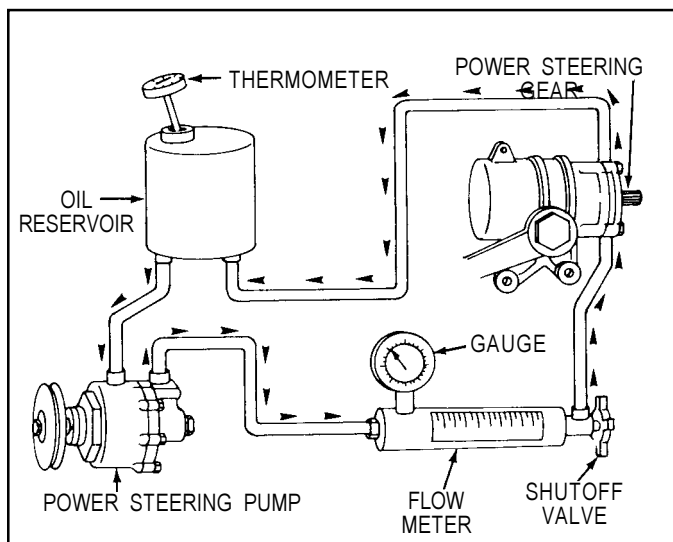

FIGURE 49
1. Connect Rotunda analyzer kit 14-0230 or equivalent to the power steering system as shown in Figure 49. Be sure shutoff valve is fully open.